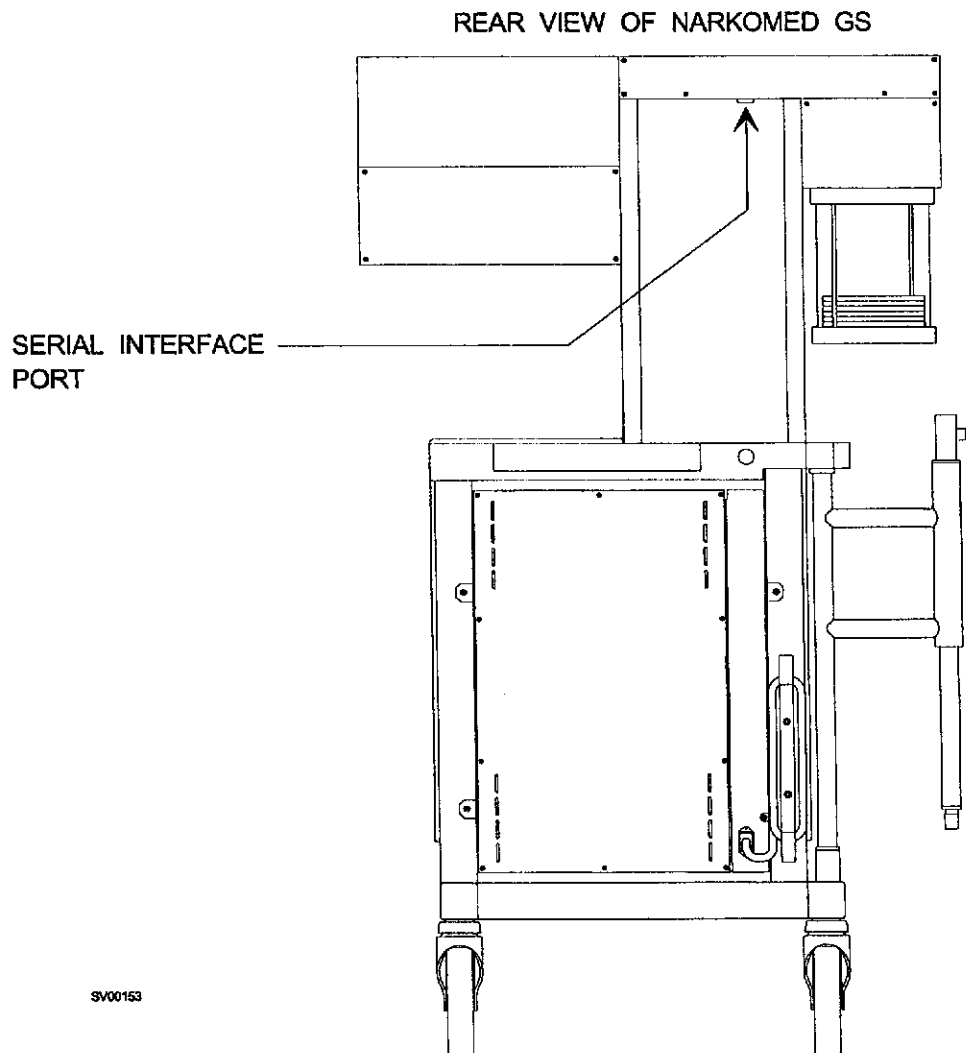

Figure 7-1: NARKOMED GS SERIAL PORT LOCATION
- 7.2.2 Connect the appropriate interface cable (9-pin or 25-pin) to COM 1 on the PC, and connect the other end of the cable to the NMGS serial interface Port as shown in Figure 7-1.